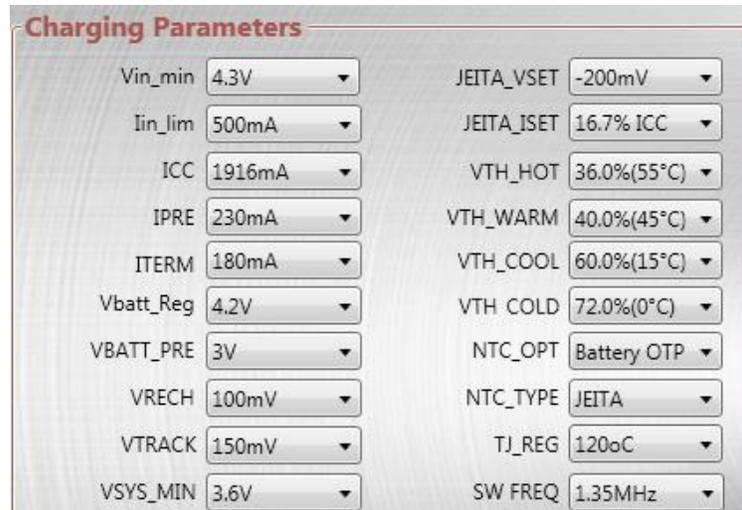

Figure 5: Selecting the Charger Functions
3. Select the charger functions (see Figure 5 on page 5).